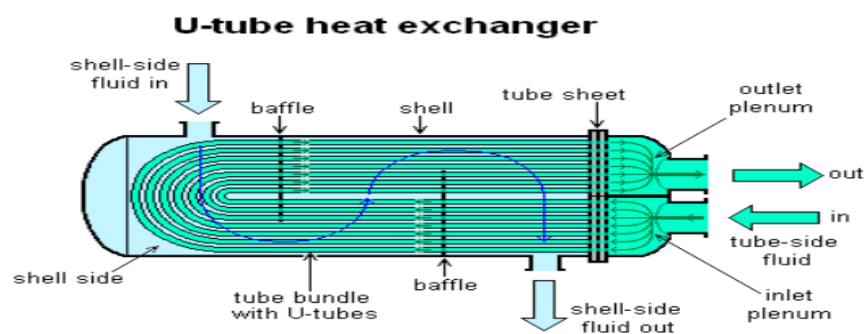

Fig.24
Increasing in energy of system = interning energy – exiting energy. Fig 24 shows a gas inter system and heat (Q) applied on it, the gas expand against applied force (F) which = piston weight + block spring reaction.